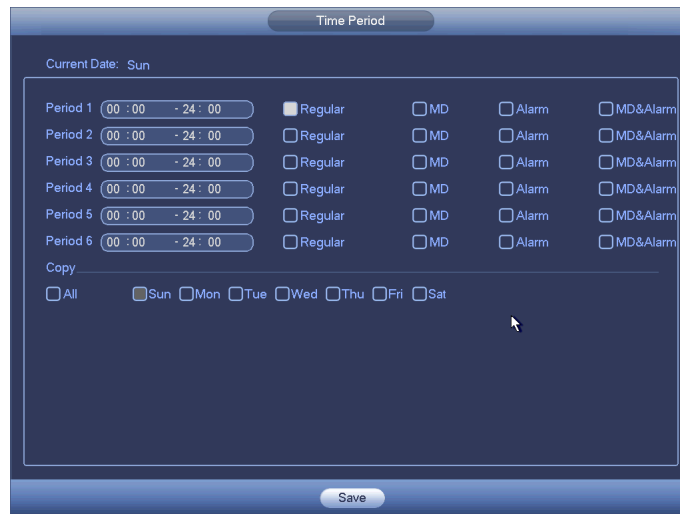

Figure 4-94
- Period setup: Click button  after one date or a holiday, you can see an interface shown as in Figure 4-94. There are four record types: regular, motion detection (MD), Alarm, MD & alarm.